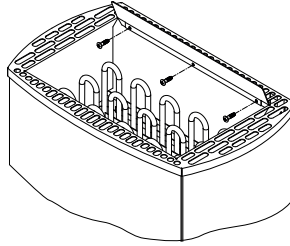

Figure 5
- Attach the enclosed baffle as shown in Fig. 5. To do this, first release the central screw on the lid and attach it using this and two other tapping screws 4.2 x 9.5 from the poly bag.